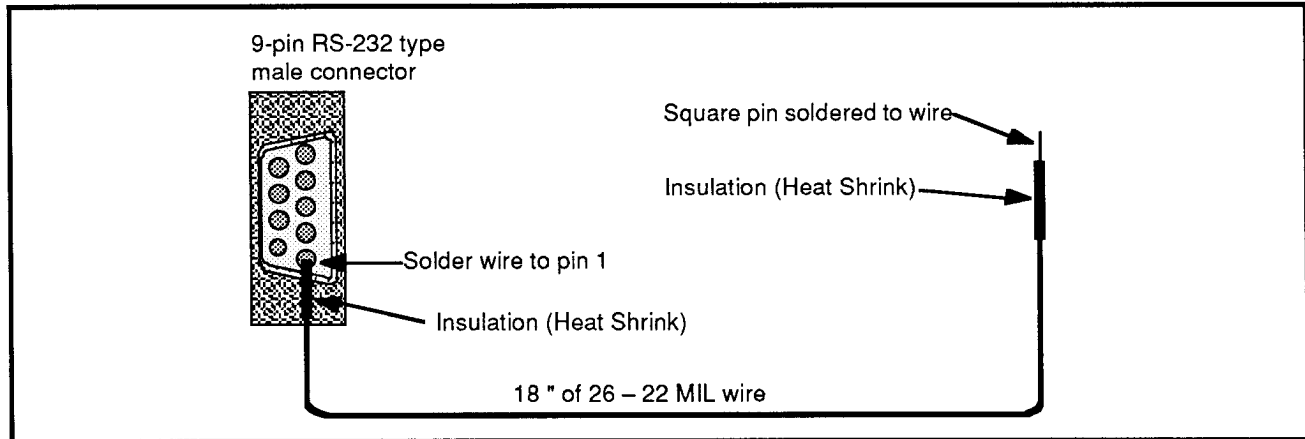

Figure 4-19. Detector test cable construction.
- Test Cable (See Figure 4-19)
- f. Enable the broadcast (AM) video mode by pressing DEMOD/TG 3, and set the LEVEL control for minimum flicker in the displayed picture.